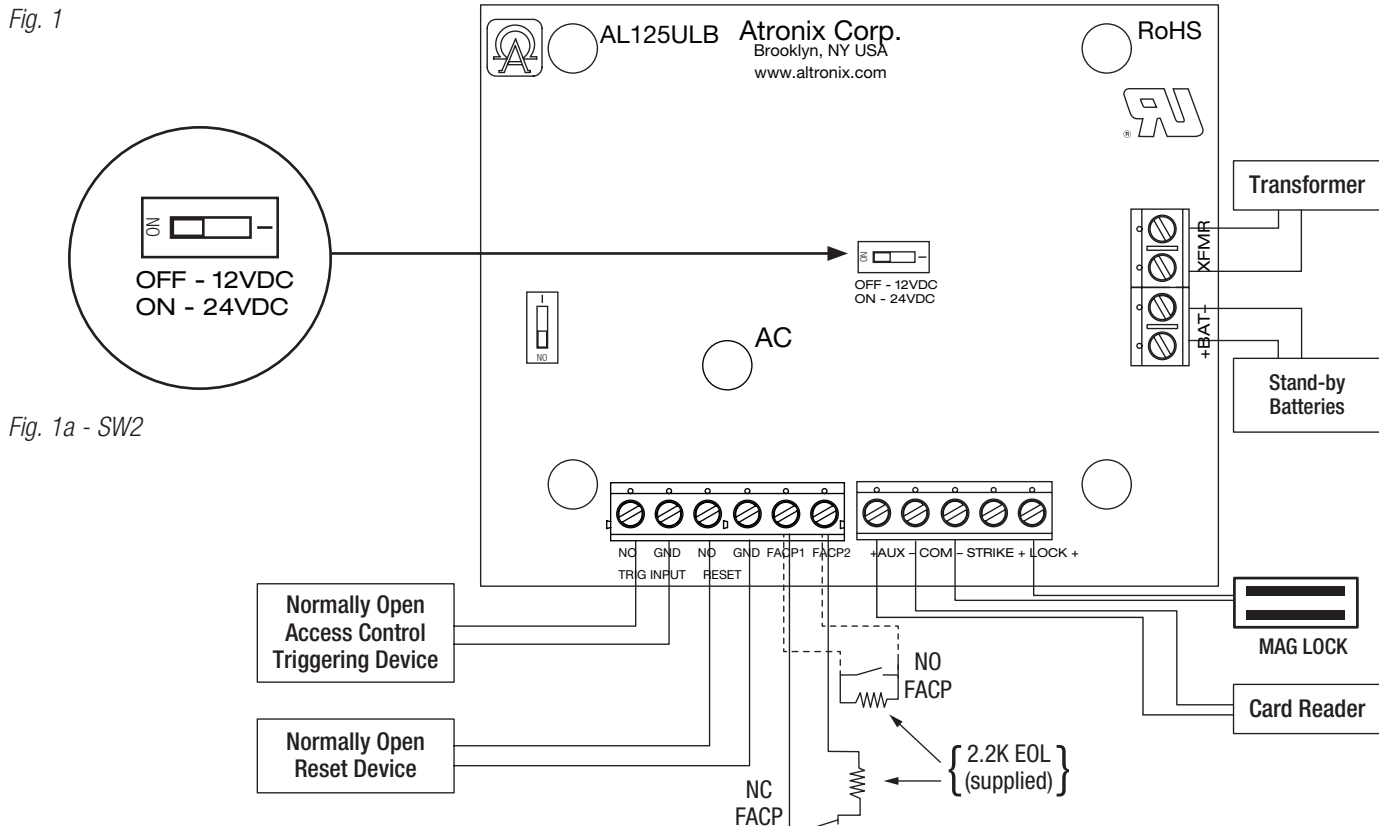

Fig. 1a - SW2
4. Set the desired DC output voltage by setting switch SW2 (*Fig. 1a - Application Diagram, pg. 2*) to the appropriate position (*Power Supply Output Specifications Table, above*).
If required, set the latching FACP interface mode by closing SW1 (*Fig. 1a - Application Diagram, pg. 2*), and connect a normally open reset device to the terminals marked RESET [NO, GND].